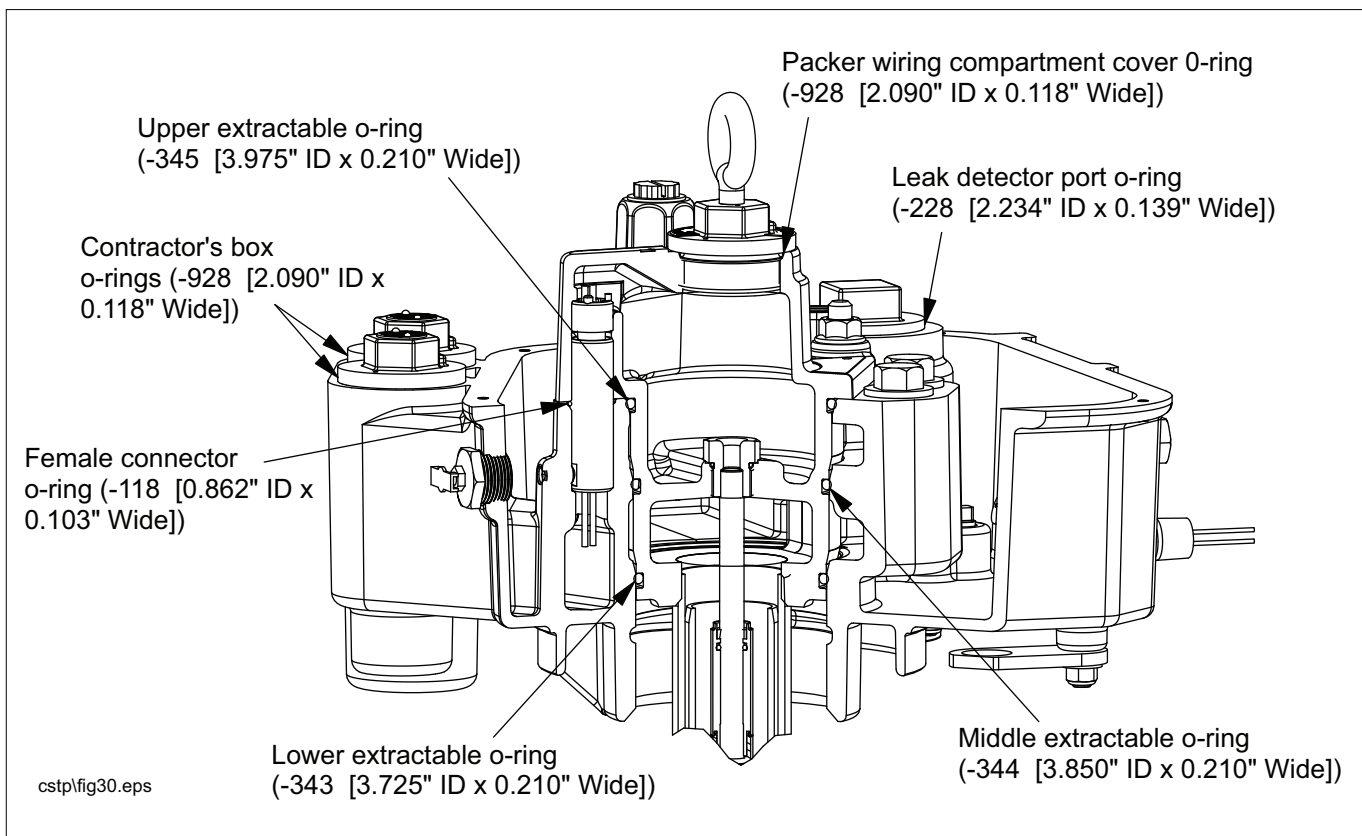

Figure 34. Locating Packer And Manifold O-Rings
14. Remove the three extractable o-ring seals (-345, 3.975" ID x 0.210" wide [upper], -344, 3.850" ID x 0.210" wide [middle], and -343, 3.725" x 0.210" wide [lower]) from the hardware/seal kit. The three o-rings are very close in size so take extra care to distinguish each one before replacing them in the extractable. Lubricate each o-ring with petroleum jelly and then install them in their assigned grooves in the extractable (see Figure 34).
15. Remove the manifold's female connector's o-ring (see Figure 34). Get a -118, 0.862" ID x 0.103" wide o-ring from the kit and lubricate it with petroleum jelly. Slide the o-ring over the female connector and push it down into its groove.
11. With its lubricated o-ring in place, insert the check valve onto its seat in the manifold and place the new spring over the check valve (see Figure 34). Place the check valve housing with o-ring over the spring and check valve and screw it in hand tight. Torque the housing to 40 - 50 ft-lbs (54 - 68 N•m). Replace the protective plug over the service screw and full thread into place to ensure a good seal.